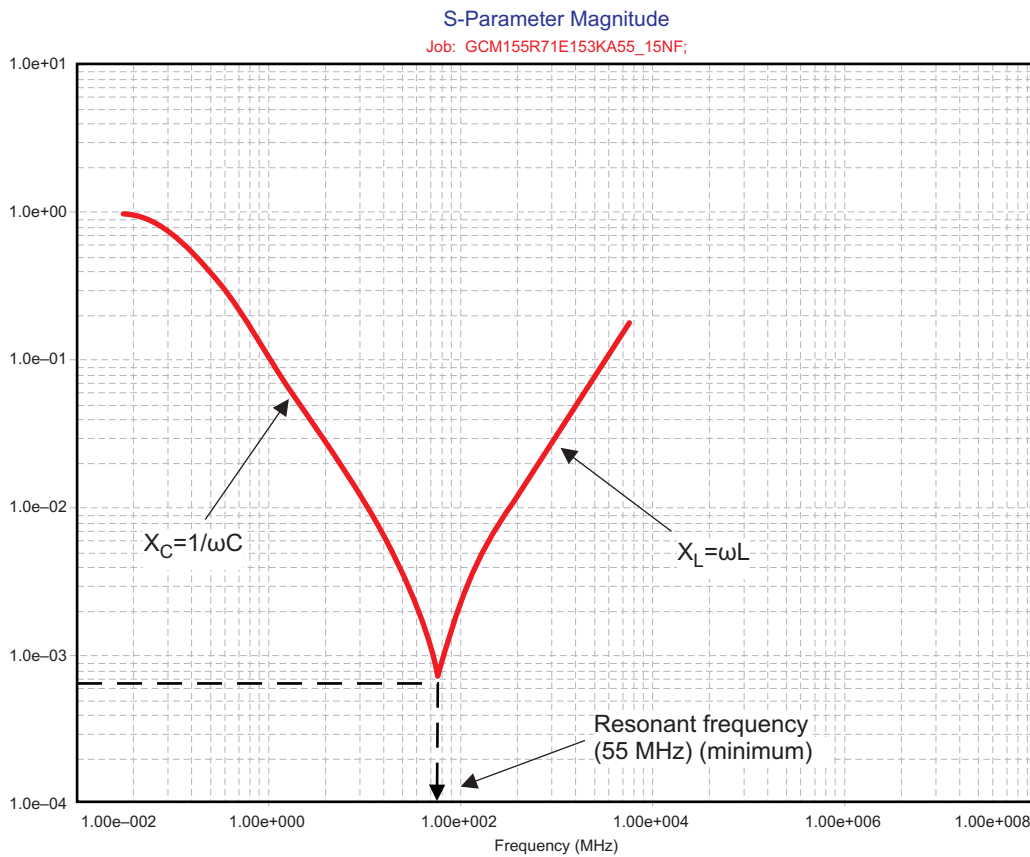

Figure 7-14. Typical Impedance Profile of a Capacitor
Figure 7-14 shows the resonant frequency response of a typical capacitor with a self-resonant frequency of 55 MHz. The impedance of the capacitor is a combination of its series resistance and reactive capacitance and inductance as shown in the equation above.
Keep radio frequency (RF) sensitive circuitry (like GPS receivers, GSM/WCDMA, Bluetooth/WLAN transceivers, frequency modulation (FM) radio) away from high-speed ICs (the device, power and audio manager, chargers, memories, and so forth) and ideally on the opposite side of the PCB. For improved protection it is recommended to place these emission sources in a shield can. If the shield can have a removable lid (two-piece shield), ensure there is low contact impedance between the fence and the lid. Leave some space between the lid and the components under it to limit the high-frequency currents induced in the lid. Limit the shield size to put any potential shield resonances above the frequencies of interest; see Figure 7-14, *Typical Impedance Profile of a Capacitor*.